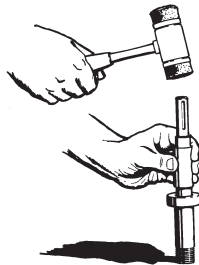

Figure 5-9
2. Insert the shaft into the pipe so the bearing is between the pipe and the shoulder of the shaft. Refer to Figure 5-9.